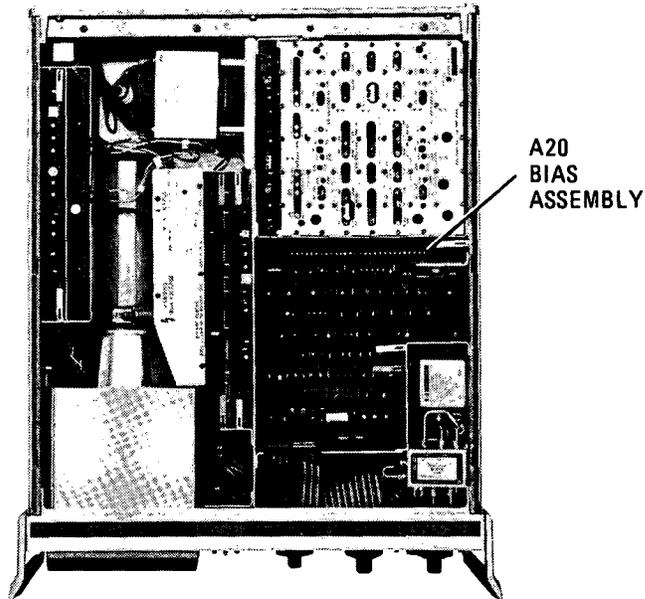

Figure 5-47. Preliminary Bias Adjustment Locations
5. Set AMPLITUDE SCALE to 2 dB. Adjust A20R85 V4 (Figure 5-47) over full range and note position for minimum ripple on CRT trace. Set A20R85 V4 for minimum ripple.